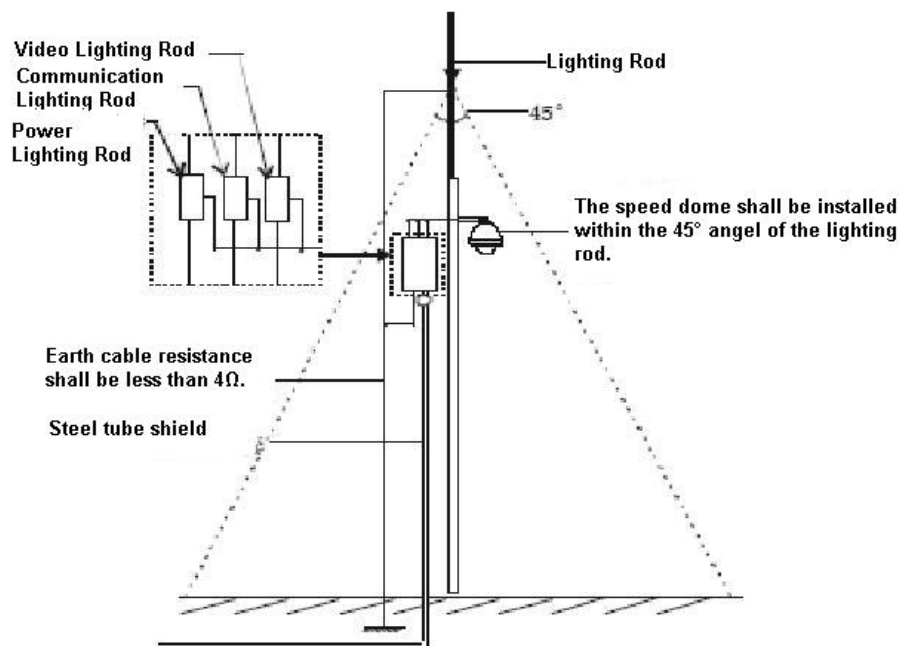

Figure 8-1
- System shall adopt equal-potential wiring. The earth device shall meet anti-jamming and at the same time conforms to your local electrical safety code. The earth device shall not short circuit to N (neutral) line of high voltage power grid or mixed with other wires. When connect the system to the earth alone, the earth resistance shall not be more than 4Ω and earth cable cross-sectional area shall below 25 mm^2 . See Figure 8-1.